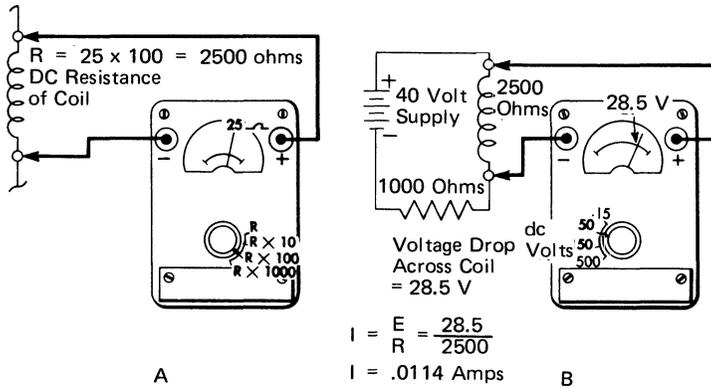

Figure 4-5. Current Measurements Style A and B Meters Selector Switch Scale Relationship
the relay coil of Figure 4-5 (A) is measured on the R x 100 scale.
the coil resistance of 2500 ohms. Then, with the machine on, power is applied to the coil and the voltage drop across the coil is measured with the voltmeter (Figure 4-5 B).